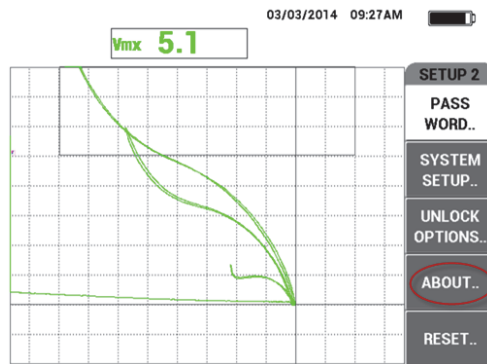

Figure 6-8 The ABOUT menu
3. Press the D key to open the **ABOUT** menu (see Figure 6-8 on page 308).